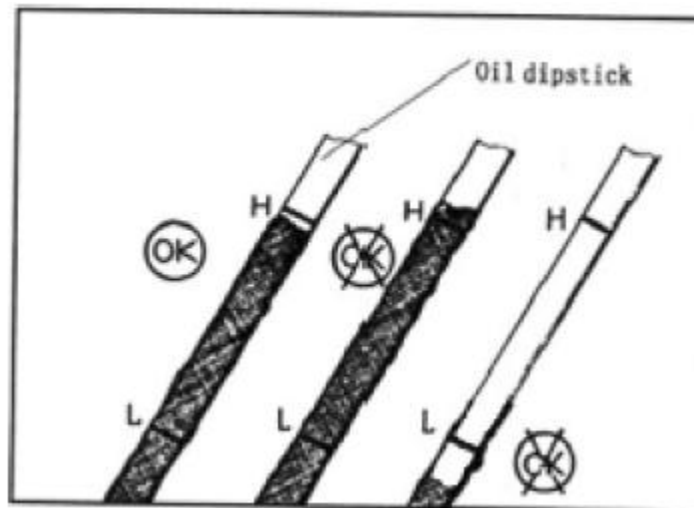

Figure 9. Engine Oil Dipstick
- a. Check oil level. (Refer to Figure 9)